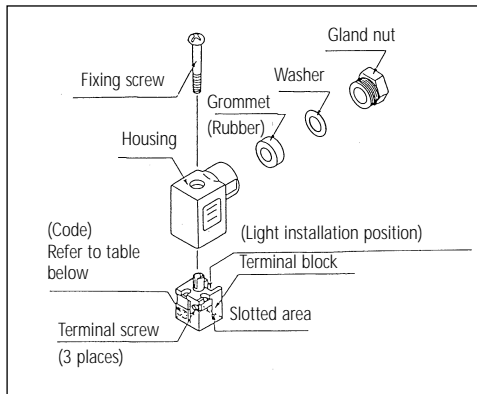

Fig 6
**DIN Type Connector (Fig 6)**